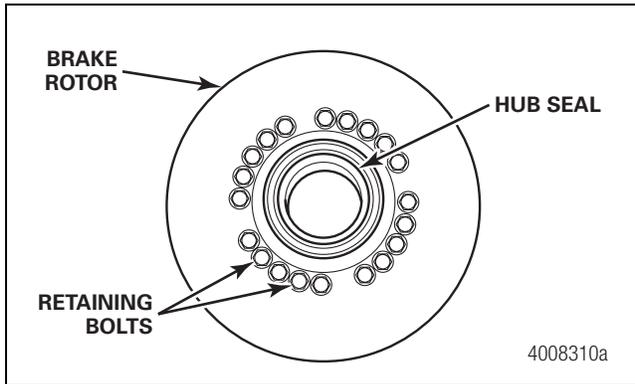

Figure 4.6
1. Remove the rotor mounting bolts and remove the rotor from the hub. Figure 4.6.